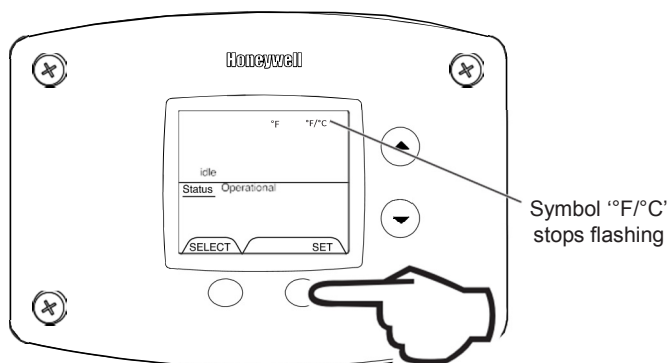

Figure 23
- Press 'SET' button to confirm °F or °C format. F°/ °C will stop flashing. Setpoint display will appear in the format selected (°F or °C) in 10 seconds (Fig. 23).